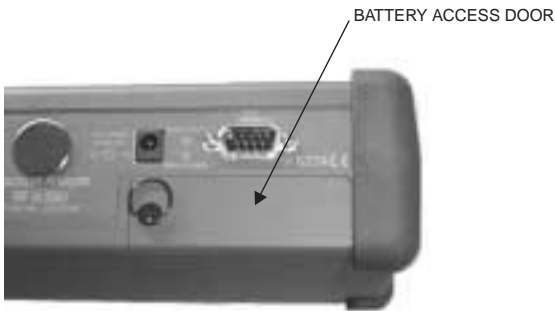

Figure 7. Battery Access Door Location
1. With the Site Master standing upright on a stable surface, locate the battery access door (Figure 7).